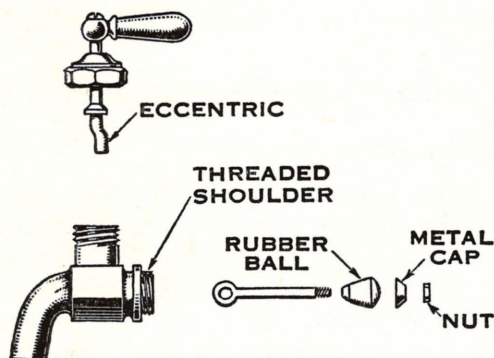

Fig. 392—The rubber ball washer and the packing can be replaced after the faucet has been removed at the shoulder
4. Replace the ball, after removing the nut on the end of the plunger. (See Fig. 392.)